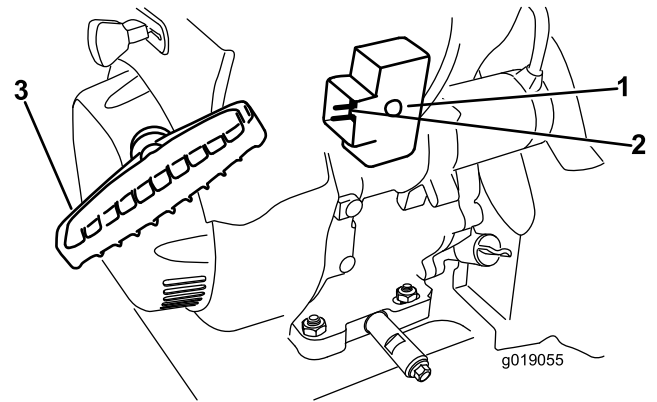

Figure 31
7. Start the machine by pulling the recoil-start handle or pressing the electric-start button (Figure 31).